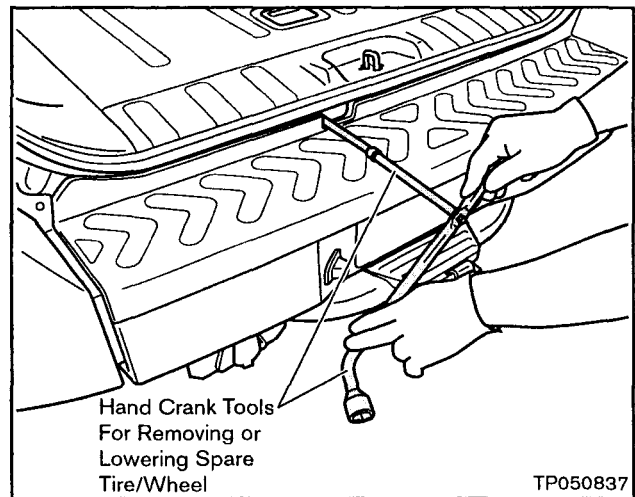

Figure A1
2. Remove or lower the Spare Tire/Wheel using the Hand Crank tools from the tool kit (see Figure A1).